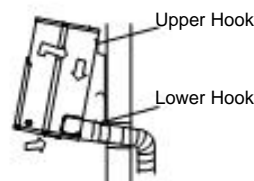
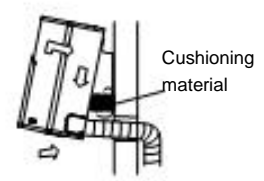

Fig.9
Fig.10
2. Put the upper claw at the back of the indoor unit on the upper hook of the installation plate, move the indoor unit from side to side to see that it is securely hooked (see Fig.9 & Fig.10).